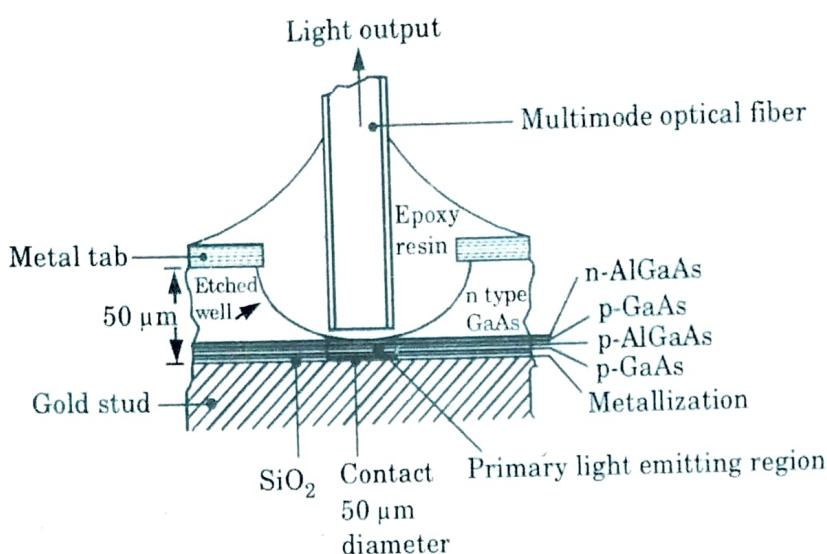

Fig. 3.4.3. The structure of an AlGaAs DH surface-emitting LED (Burrus type).
1. The structure of a high radiance etched well DH surface emitter for the 0.8 to 0.9 mm wavelength band is shown in Fig. 3.4.3.